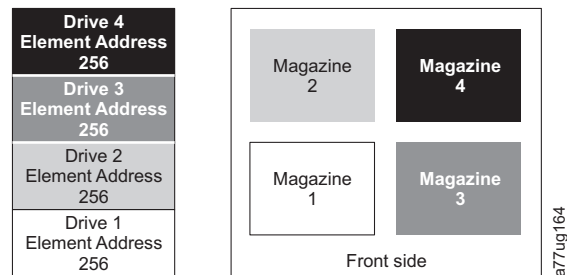

Figure 214. Configuration of a four - partition system
- Logical Library 1: Slot1 through 23 4096 (0x1000) through 4118 (0x1016) as shown in Figure 214 on page 288
When configured with four logical partitions, the Element Address assignments are as follows: DTE assignments are as shown in Figure 214 on page 288.